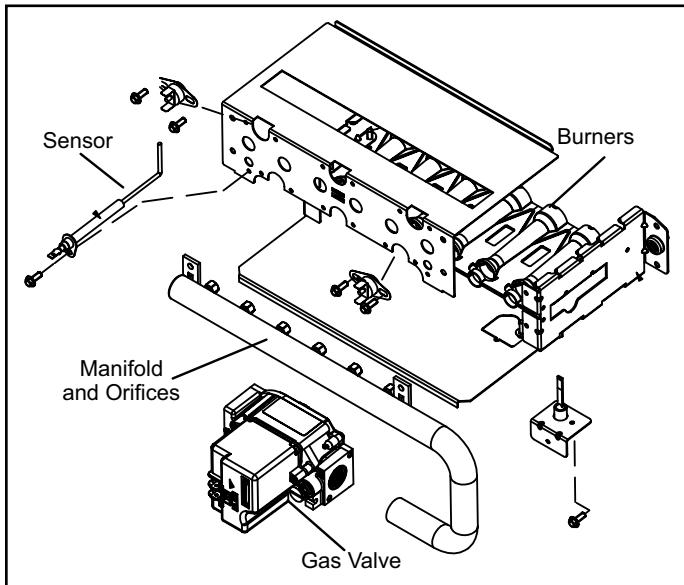
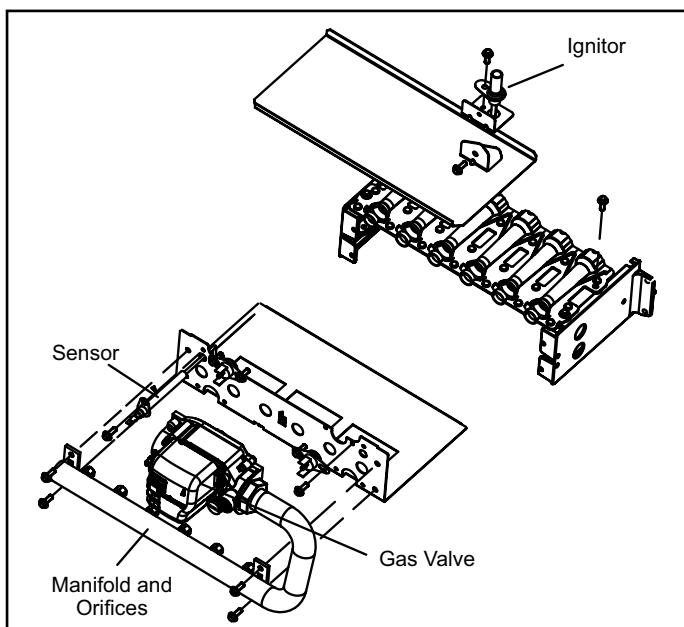

Figure 4. Manifold Gas Valve Assembly
Figure 5. Manifold Gas Valve Assembly
5. Replace the burner orifices with the provided gas orifices. Torque to approximately 35 in-lbs. Do not use sealant on orifices. Figure 4 and Figure 5 show manifold/gas valve assembly.